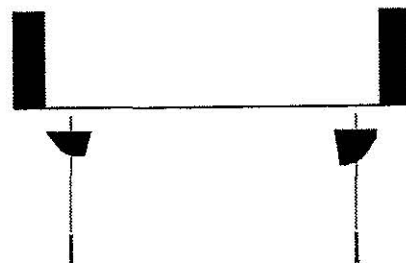

Figure 4. Feet Installation
7. With a Phillips head screwdriver, securely tighten both screws. (see Figure 4)